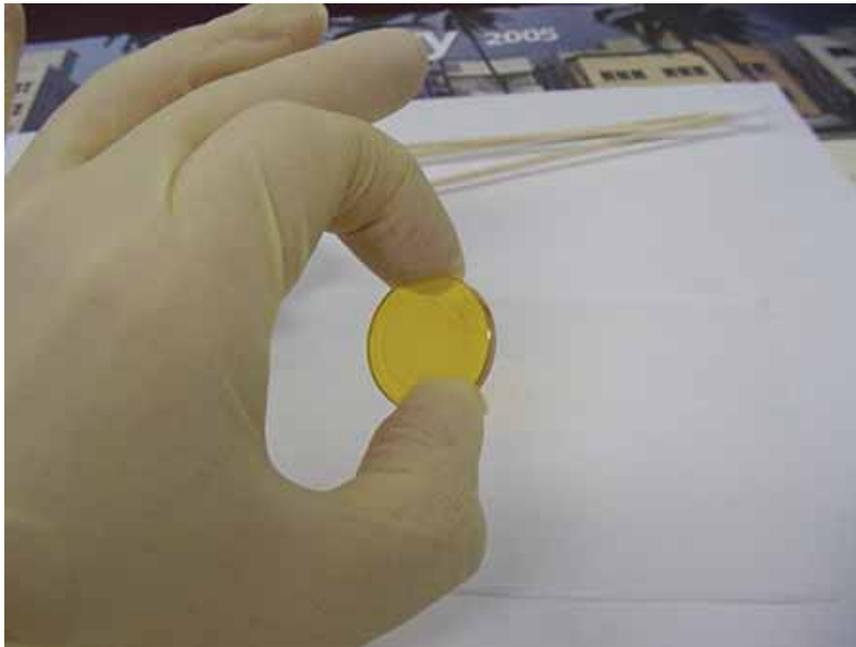

Figure 6-5. Optic Handling
4. If not on already, put on a pair of powder-free gloves. The optic window must not be handled with bare fingers. The most important point to remember is that the optic window has a very delicate coating that must be protected. If the coating is damaged the window will not transmit the laser beam efficiently and system performance will degrade. You should always handle the optic window with gloves and hold it by the edges. Inspect the window visually at this point to determine how dirty the lens actually is (See Figure 6-5).